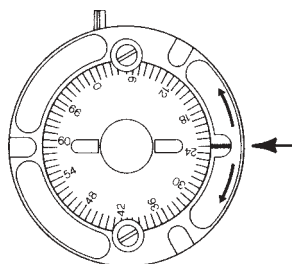

Figure 7.10.5
- E. Turn T-125 base over so that timing disk is facing you. Loosen timing disk retaining screw. Scribe a mark on the timing disk corresponding to the index mark on the T-125 base. This represents a point-of-reference for primary point "E" gap. (See Figure 7.10.5.)